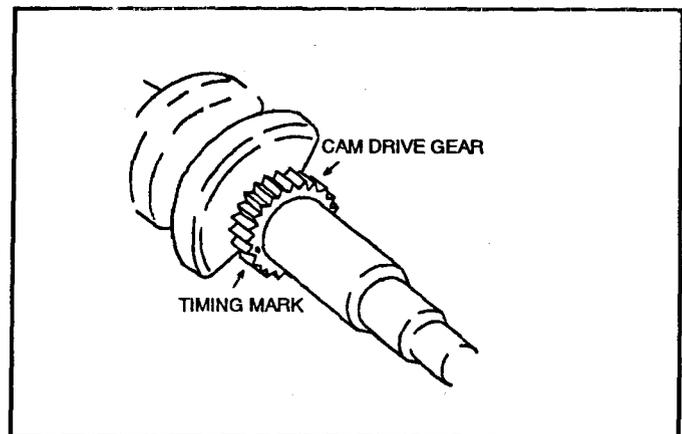

Figure 71
4. The camshaft drive gear is keyed to the crankshaft and may be removed. Take care to note the side of the gear with the timing mark for correct installation. See Figure 71.